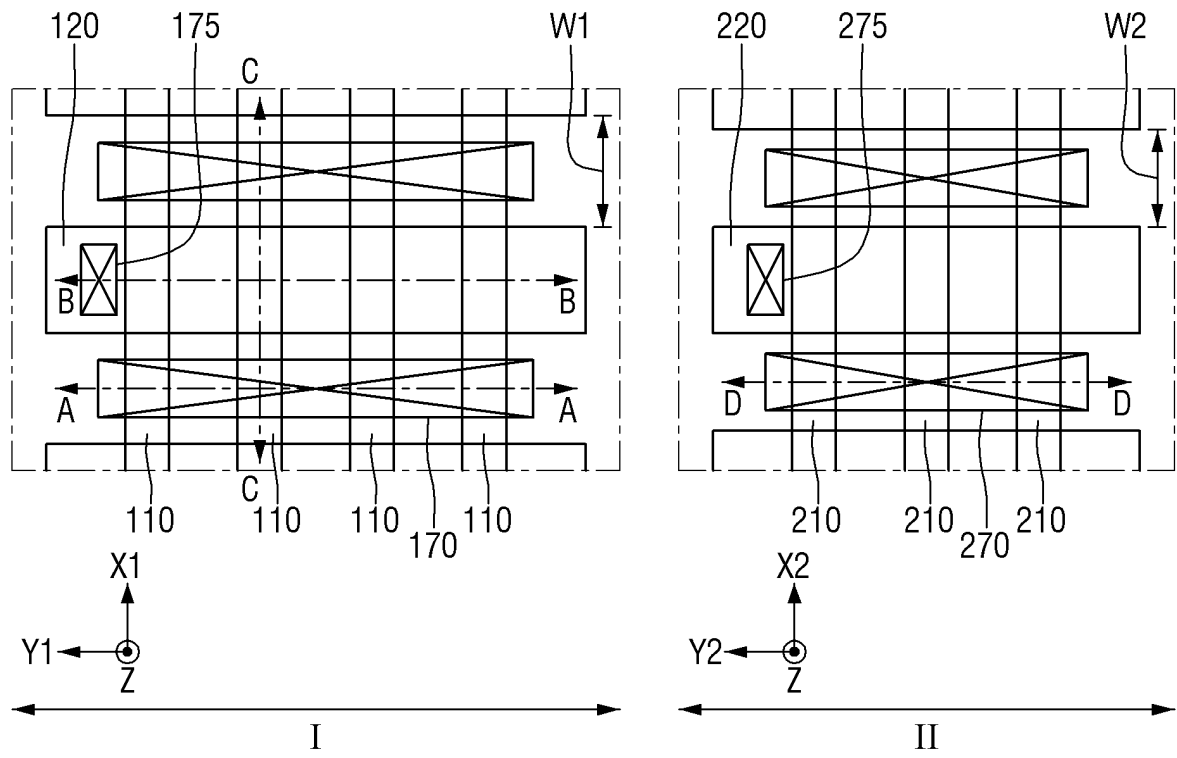

FIG. 1
Figure 1 is a cross-sectional view of a semiconductor device 100. The device includes a substrate 110 with a top layer 192 and a bottom layer 196. A central region 170 is filled with a material 191. A series of vertical structures 105a(105) and 105b(105) are formed on the top layer 192. A dashed line 110 indicates a boundary. A coordinate system (X1, Y1, Z) is shown at the bottom right.